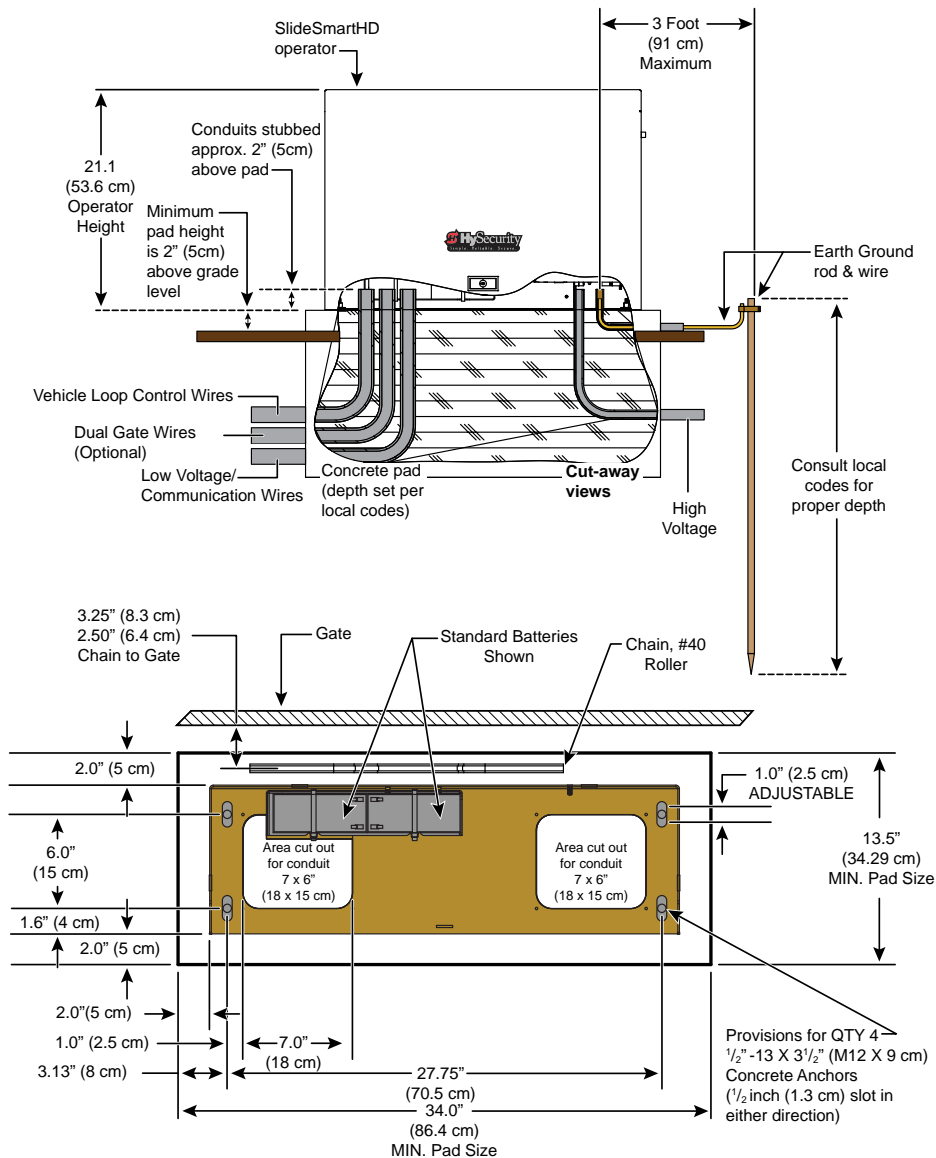

Figure 3. Conduit View
1. Follow the local building codes to identify the frost line and determine the required depth of the concrete pad. HySecurity recommends a minimum 16-inch depth with a minimum 2-inch extension. Refer to Figure 3.
2. Before pouring the pad, consider conduit placement so it fits within the confines of the 7 x 6-inch cutout in the SlideSmart base as shown in Figure 3. Run separate conduits for:
3. Extend conduit height 2-inches (5cm) above the pad (4-inches (9cm) above ground level). Make sure the concrete forms are square with the gate and the pad is level. The operator footprint, with covers, is approximately 30 x 10 inch rectangle. See Figure 3 for the minimum pad dimensions.